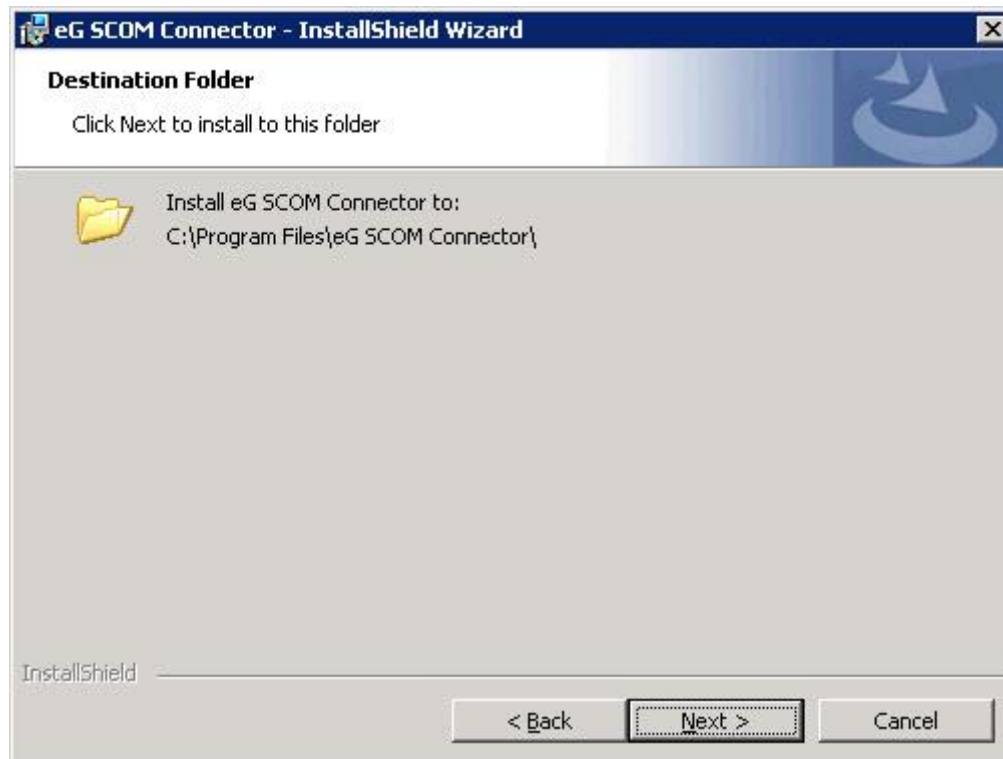

Figure 2.4: Specifying the install directory of the connector
7. When Figure 2.4 appears, the directory in which the eG SCOM Connector will be installed by default, will be displayed. **This default directory cannot be changed.** Click the **Next** button to proceed.